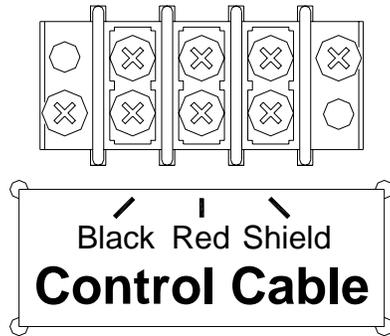

Figure 9 Control Cable Wiring Diagram
3. Connect the control cable to the **Control Cable** terminal block on the junction chassis according to figure 9.